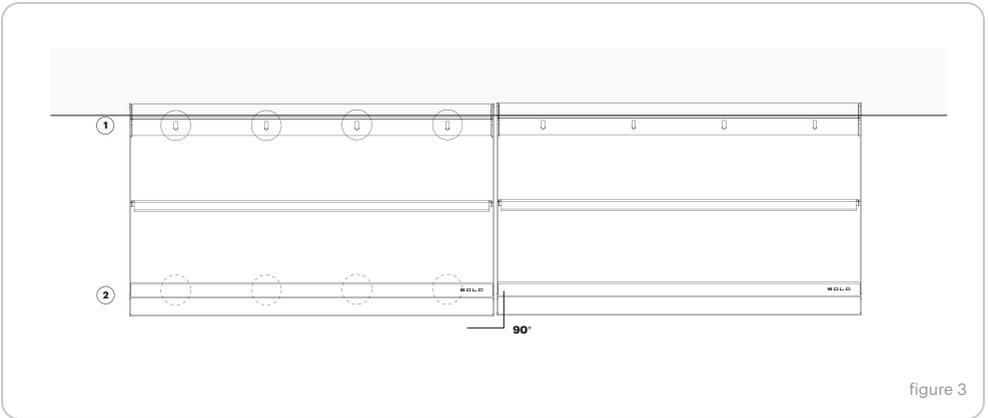

figure 3
**2.** Hold the cabinet in position and fix the upper points inside the cabinet by the 5x20mm screws or alternatively by the included rivet nuts and M6x16mm bolts. Next make sure the cabinet has a 90 degree angle in the bottom corner. You can check this by closing the cabinet and see if the front panel lines up. Now screw into the 4 bottom locations and fixate by the 4x16 screw fig. 3 .